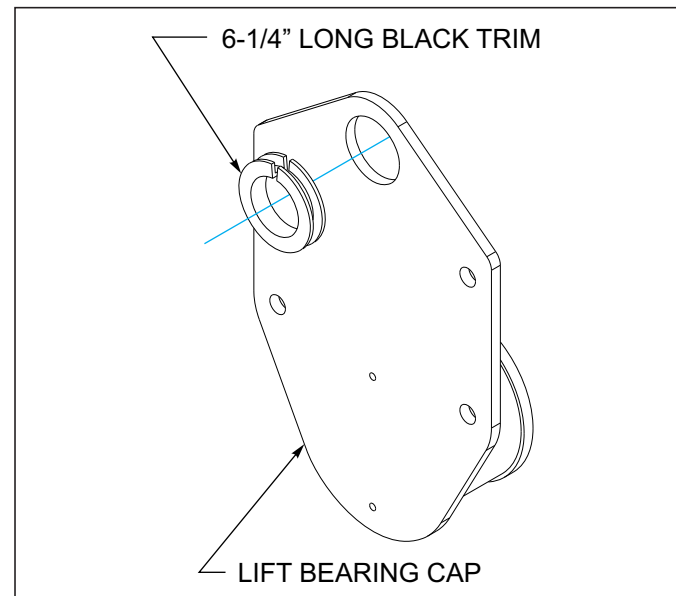

Figure 3-9: Trim Installation
6. Install a 6-1/4" long piece of black trim in the top hole of the lift bearing caps. Outer wing bearing caps do not require trim. Route rear fold and lift hydraulic hoses through bearing caps between frame sections (See Figure 3-9).